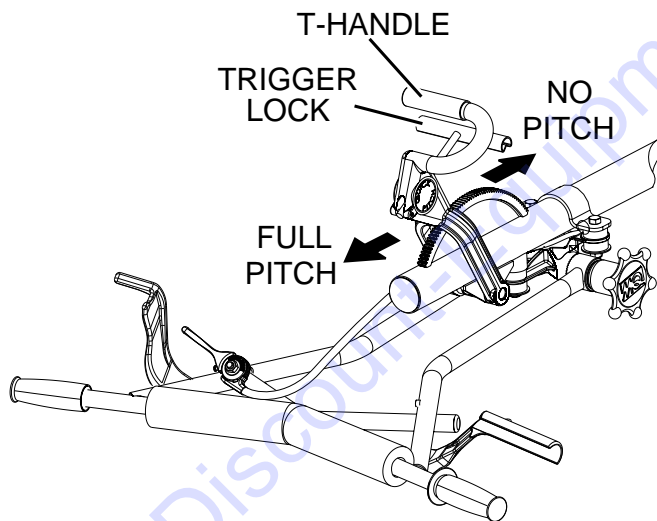

Figure 9. Adjusting Cable 4-Blade Pitch (Quick-Pitch™ Handle)
2. For trowels equipped with a **Quick Pitch™ T-handle** (QXHC), simply squeeze the trigger lock and push the **T-handle** towards the engine to pitch the blades downward. Pushing the **T-handle** towards the engine will cause the blades to lay flat (Figure 9). This will release the tension on the blade pitch cable.